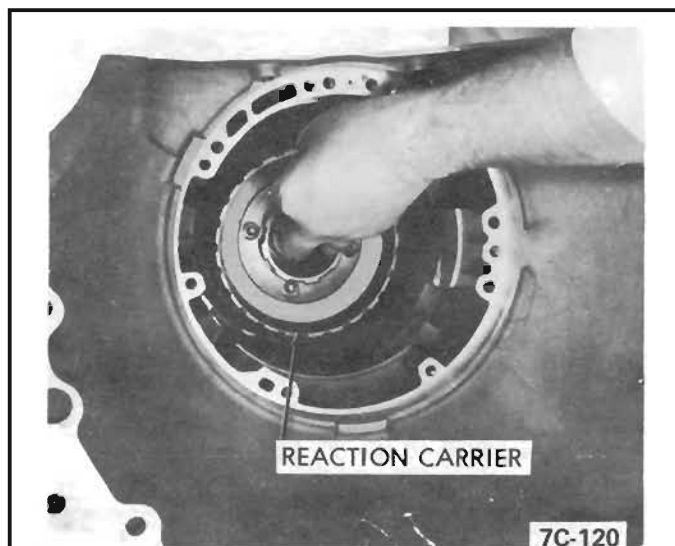

Figure 38 Reaction Carrier Removal
1. Remove reaction carrier assembly from output ring gear and shaft assembly. See Figure 38.